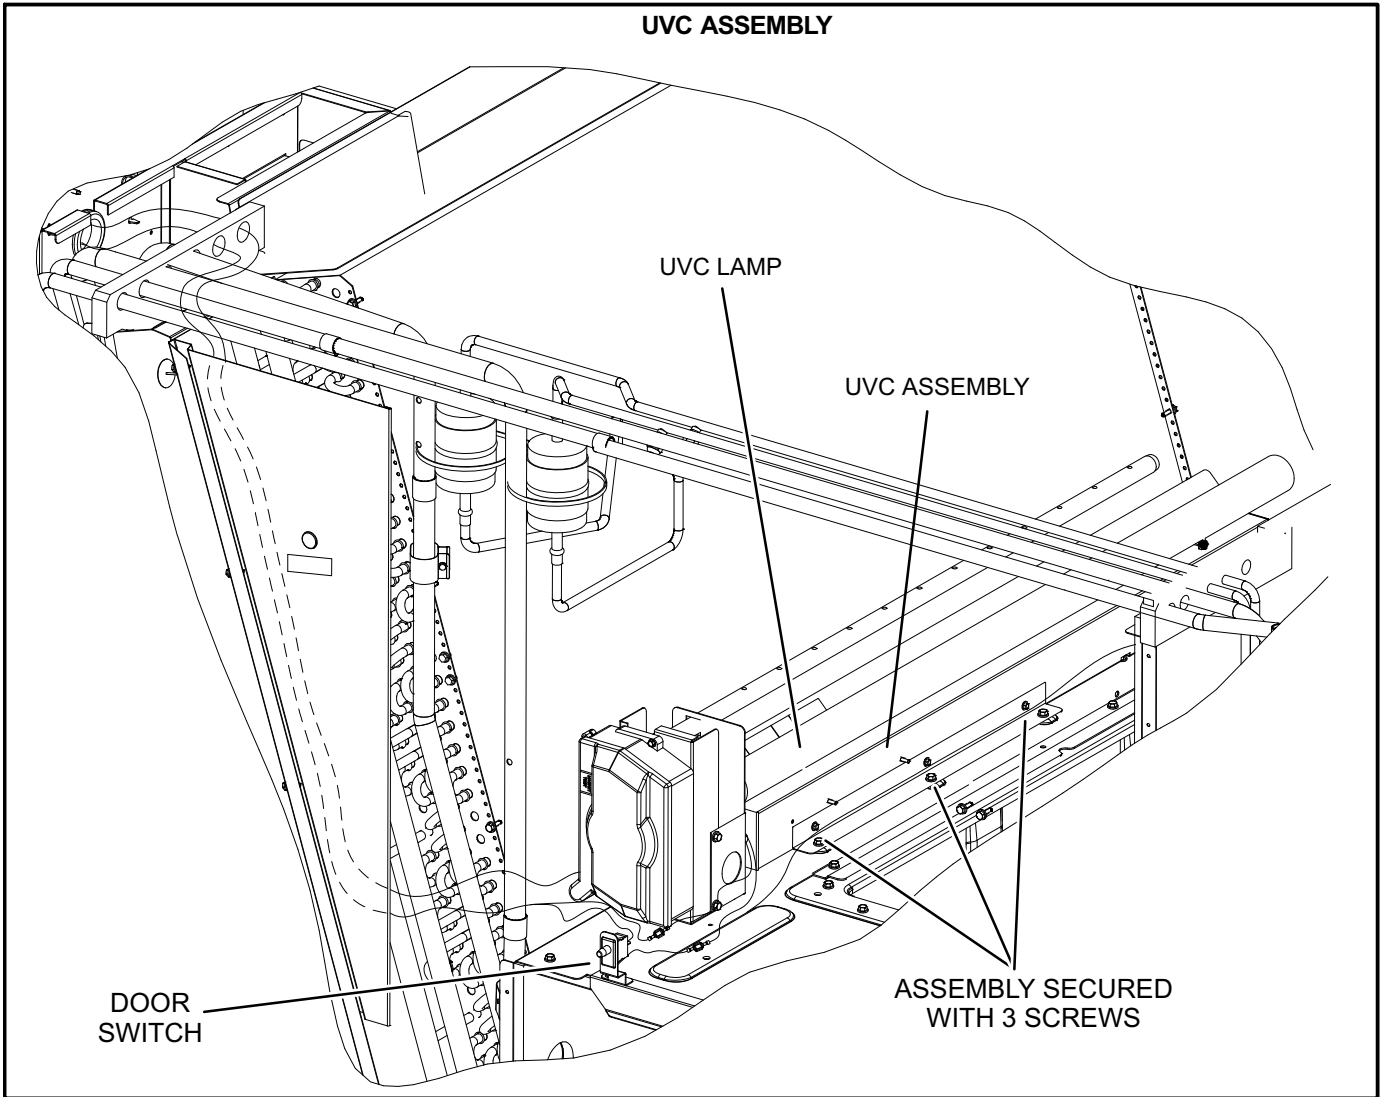

FIGURE 32
When the UVC light is factory installed, the lamp is shipped in a foam sleeve. The lamp is attached to the UVC light assembly on the blower deck. See figure 32. Remove the lamp and install into the UVC light assembly as shown in steps 2 through 11.
- 5- Remove and retain the (3) screws securing the UVC assembly. Carefully slide the complete UVC assembly out through the blower access door. See figure 32.
- 8- Carefully place the UVC assembly on the blower deck. Line up the mounting holes on the UVC assembly with the mounting holes on the blower deck. See figure 32. Use the retained screws provided to attach the UVC assembly in place.